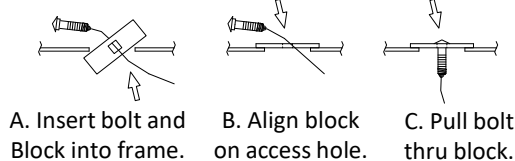

Figure 2
7. Fish Wire Passenger Side: Attach items ① and ② to item ⑤ and follow the instructions in Figure 2. Leave item ⑤ attached until the hitch is raised into position.
- USA built models: Secure hitch to vehicle using supplied 10mm bolts, item ⑥ (4 total) and 7/16" conical washers, item ③ (teeth side toward hitch). Remove the fish wire (item ⑤) and carefully attach item ③ and ④ to item ①.
- Korean built models: Secure hitch to vehicle using supplied 8mm bolts, item ⑦ (4 total) and 3/8" conical washers, item ⑧ (teeth side toward hitch). Remove the fish wire (item ⑤) and carefully attach item ③ and ④ to item ①.